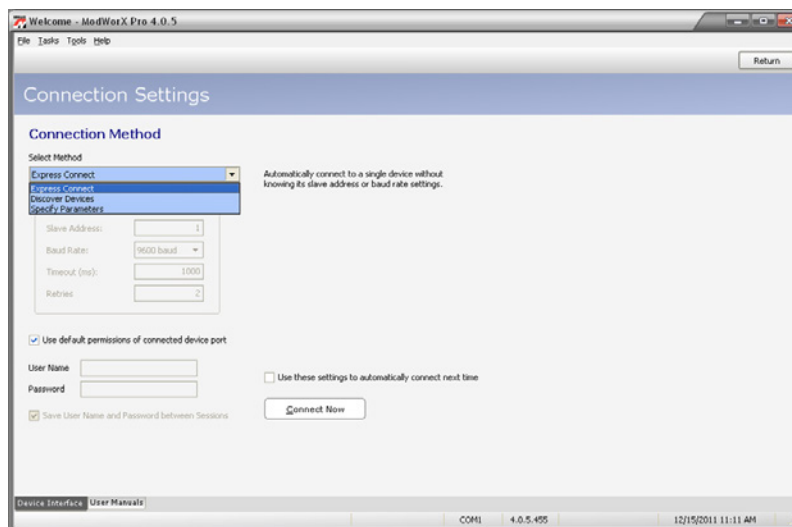

Figure 1.2
2. Click **Connect**. The Connection Settings screen will appear (Figure 1.2, page 9).
- On initial login, the system will automatically connect to the Scanner using default security permissions (full access). The “*Use default permissions of connected device port*” checkbox (shown in Figure 1.2, page 9) will be checked. No user name or password is required for login.